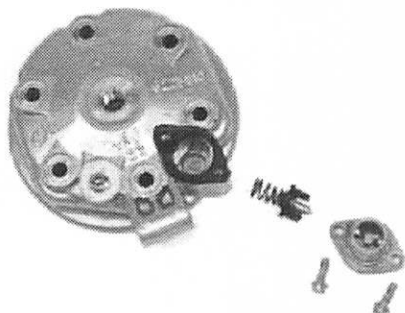

Figure 122
1. To install the thermostat (Figure 122):